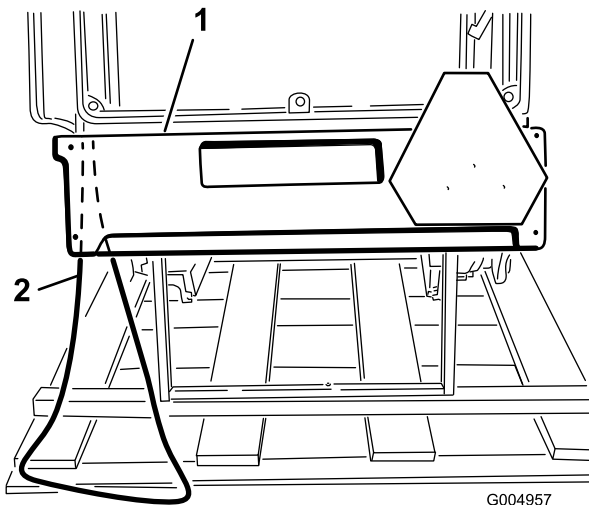

Figure 10
1. To gain access to the heater supply hoses, remove the screws securing the rear of the side panels and the back panel to the cab assembly and remove the back panel (Figure 10). Do not remove the side panels.
2. On the left rear corner of the cab assembly, locate the label on the hose marked “Pressure” (Figure 10).